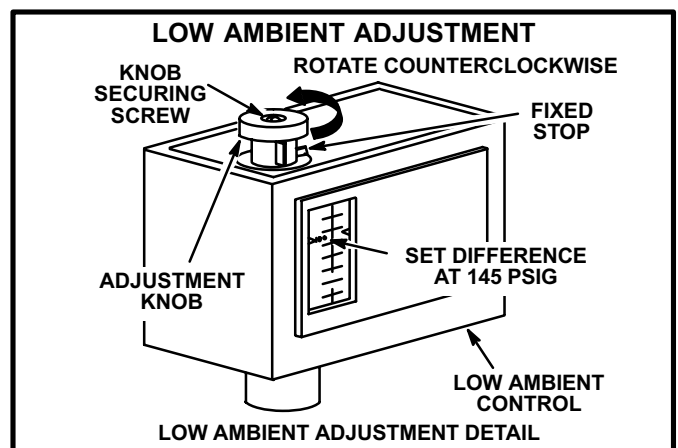

FIGURE 48
- 1- Loosen knob securing screw to allow knob stop to pass over fixed stop on control (see figure 48).